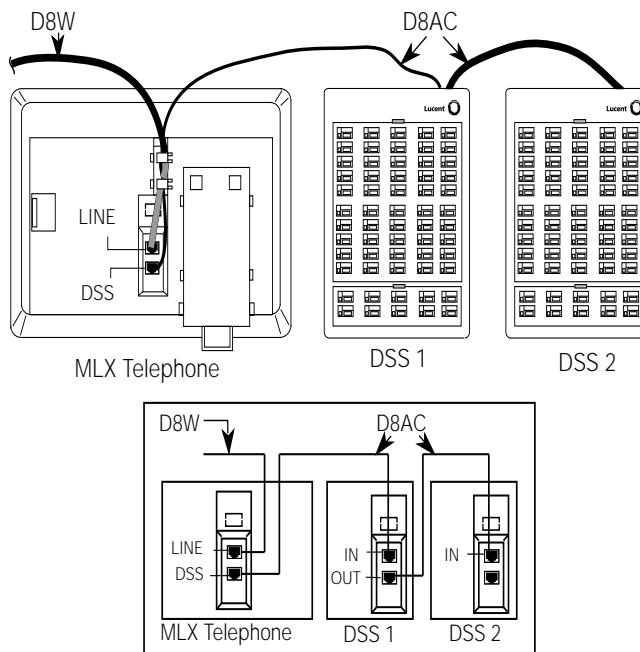

Figure 3-28. Connecting One or More DSSs
▶ **3. Wire the two DSSs. See Figure 3-28.**
► **4. Wire the telephone to the DSS unit(s). See Figure 3-28.**